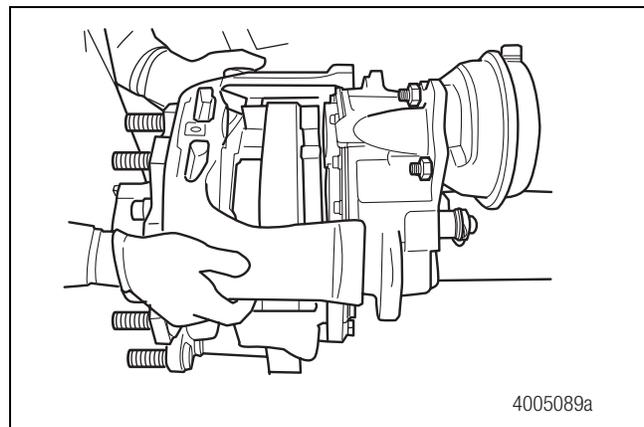

Figure 5.17
3. Carefully remove the bridge. Figure 5.17.